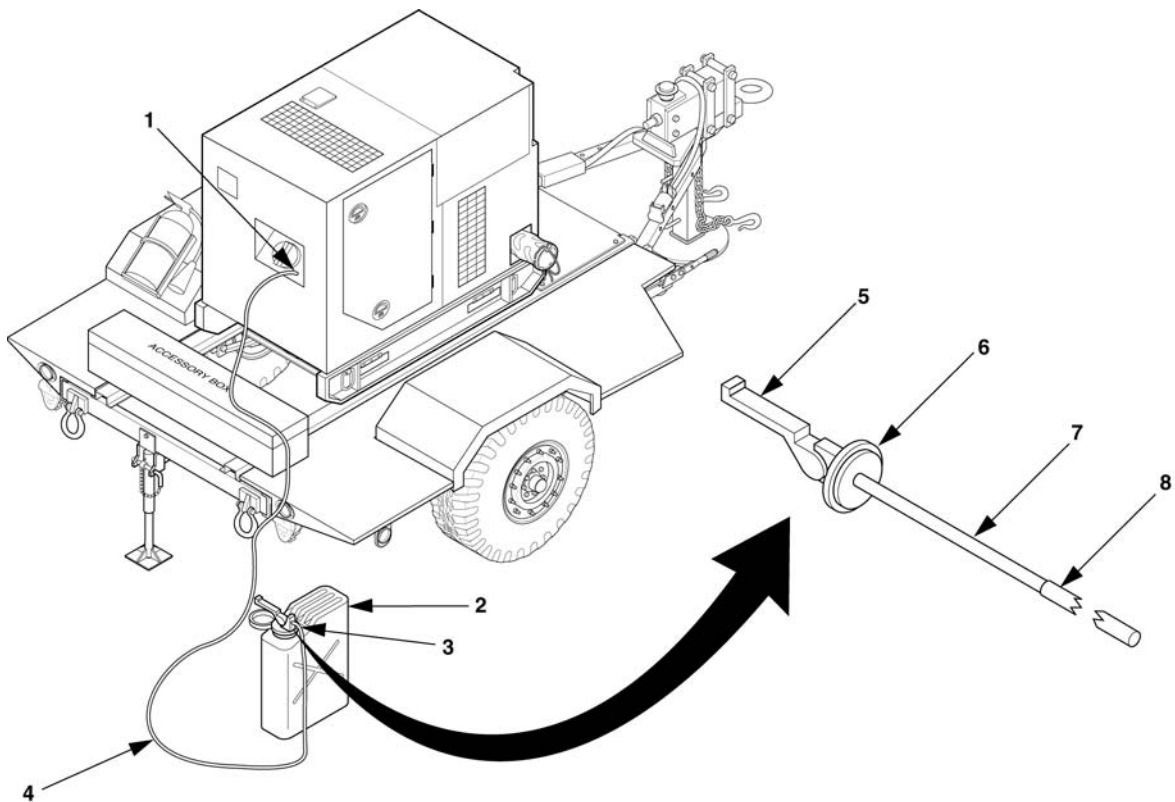

Figure 2-21. Disconnect Auxiliary Fuel (Typical).
- a. Disconnect the auxiliary fuel hose (4, figure 2-21) from the generator set external fuel supply connection (1). Elevate the free end of the auxiliary fuel hose to drain fuel back into the external fuel
- source (2). Place free end of auxiliary fuel hose on a clean surface.
- b. Disconnect auxiliary fuel hose (4) from fitting on container adapter (3).
- d. Release the container adapter from the external fuel source by lifting the handle of the clamp (5). Remove the container adapter from the external fuel source. Close the external fuel source and load onto appropriate transportation.